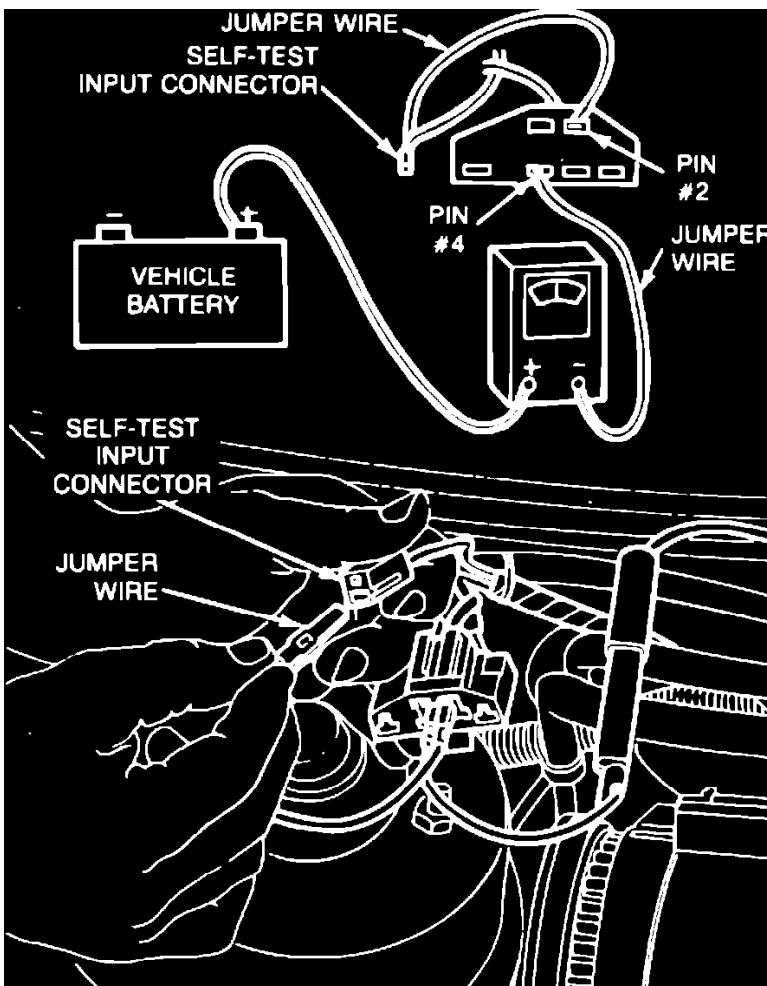

Fig. 21 Inserting 1 end of the second jumper wire into No. 2 pin on self-test connector
4. Insert one end of the second jumper wire into No. 2 pin on the self-test connector, and other end into the self-test input connector, **Fig. 21**. The final connection also activates the ECA self-test sequence when the ignition switch is turned to the ON position.